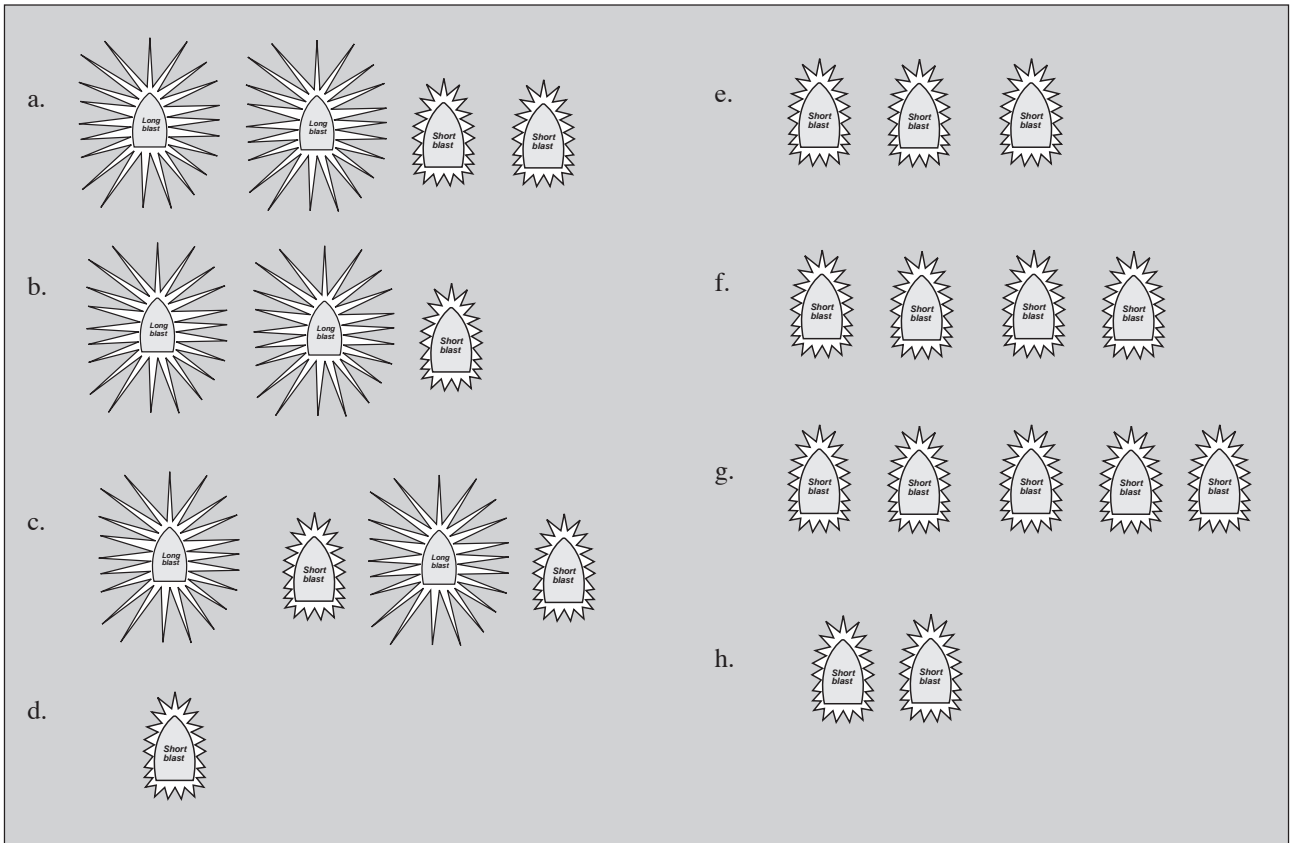

Figure 56.3 Sound signals
12. What do the following signals a–h mean in Figure 56.3 mean if you are travelling in a narrow channel?